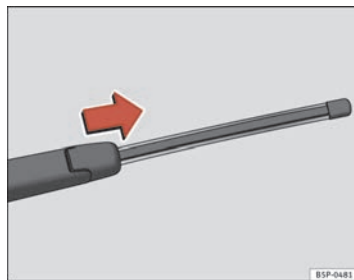

Fig. 183 Removing rear window wiper blade
- Lift the wiper arm away from the glass ⇒ page 239, fig. 183
- Slide the blade adapter in the direction of the arrow and remove the blade ⇒ page 239, fig. 183.